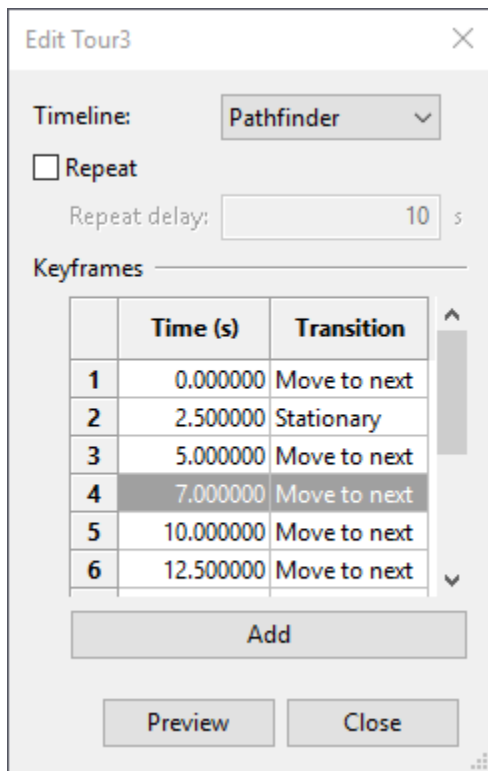

Figure 5-1 Tour editor dialog
Tour creation and editing is performed through the **Tour Editor Dialog**, as shown in Figure 5-1. The tour editor dialog allows various tour properties to be modified and allows keyframes to be added, removed, and modified.
While the tour editor dialog (Figure 5-1) is open, the scene camera will stop tracking with the tour. This is to allow positioning of the camera in order to add or edit keyframe positions. To preview changes made to the tour, click the **Preview** button at the bottom of the tour editor dialog. This will lock the scene camera back to the tour and begin playback at the current time. If the current time is outside the tour time or at the end of it, the playback time is changed to the beginning time of the tour. To end the preview, click **End Preview**. The scene camera will once again unlock, allowing changes to the keyframes.
1. Add an empty tour to the results by performing one of the following (NOTE: These actions will create an empty tour, set it active, and open the tour editor dialog shown in Figure 5-1):